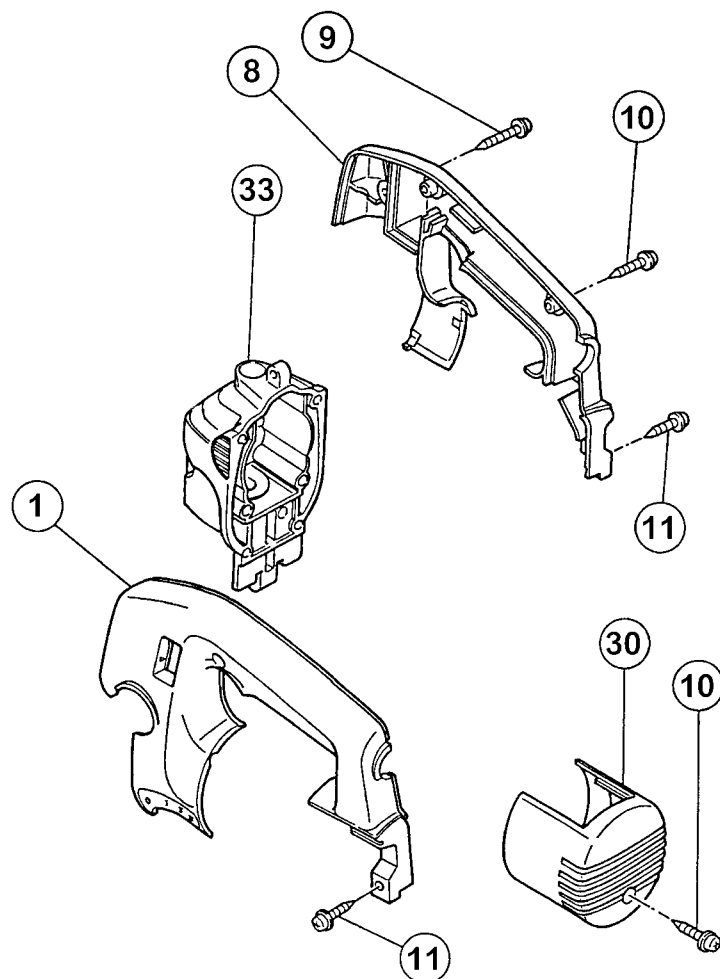

Fig. 4
(2) Disassembly of Handle (A) **[1]** and Handle (B) **[8]** (Fig. 4)